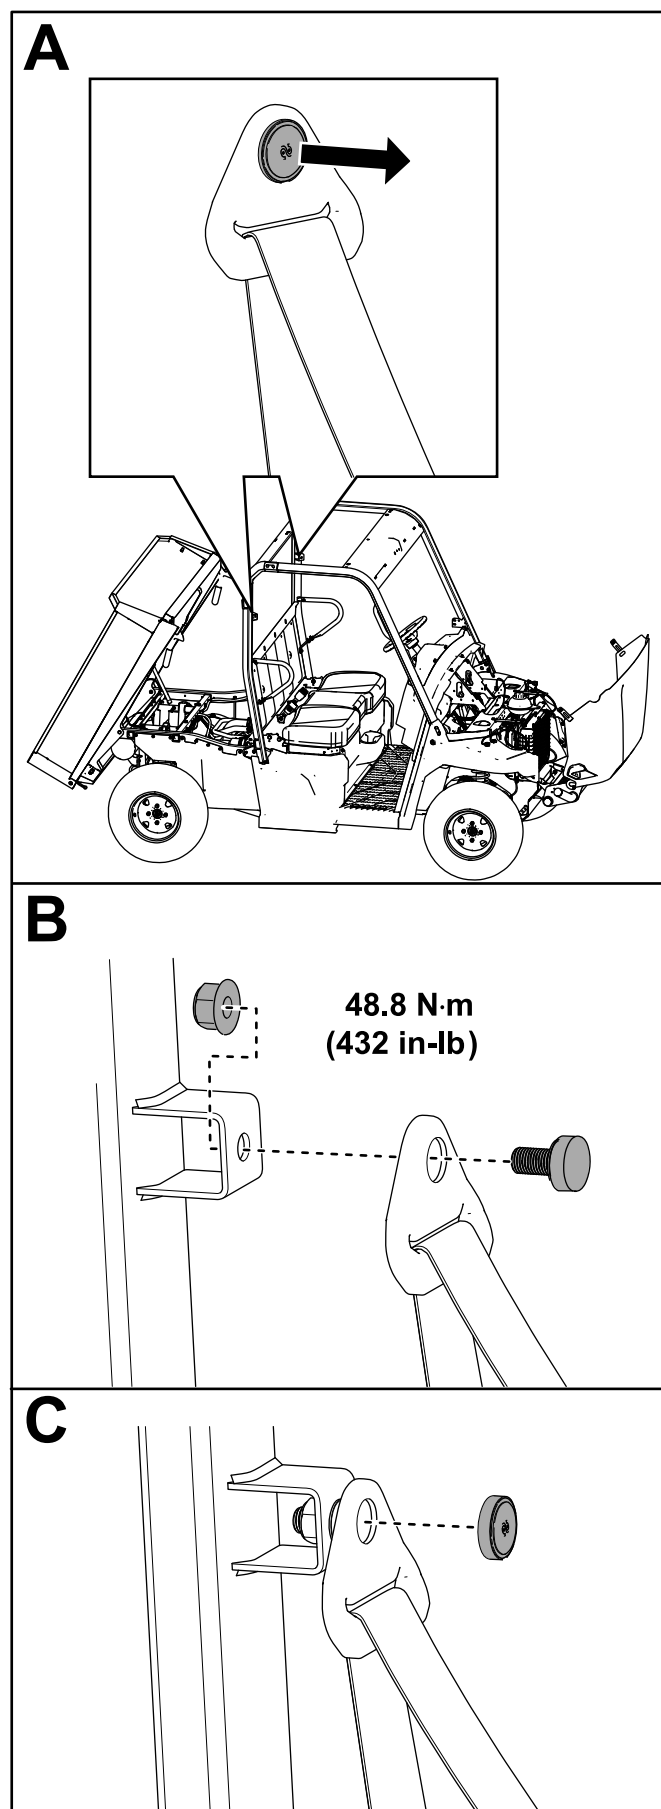

Figure 22
- Remove the cap from the top portion of the seat belt (Figure 22).
- Insert seat belt into the roll bar seat belt bracket and secure the seat belt using a locknut (7/16 inch) as shown in Figure 22.
Torque the locknut (7/16 inch) to 48.8 N·m (432 in-lb) as shown in Figure 22.
- Install the cap (Figure 22).